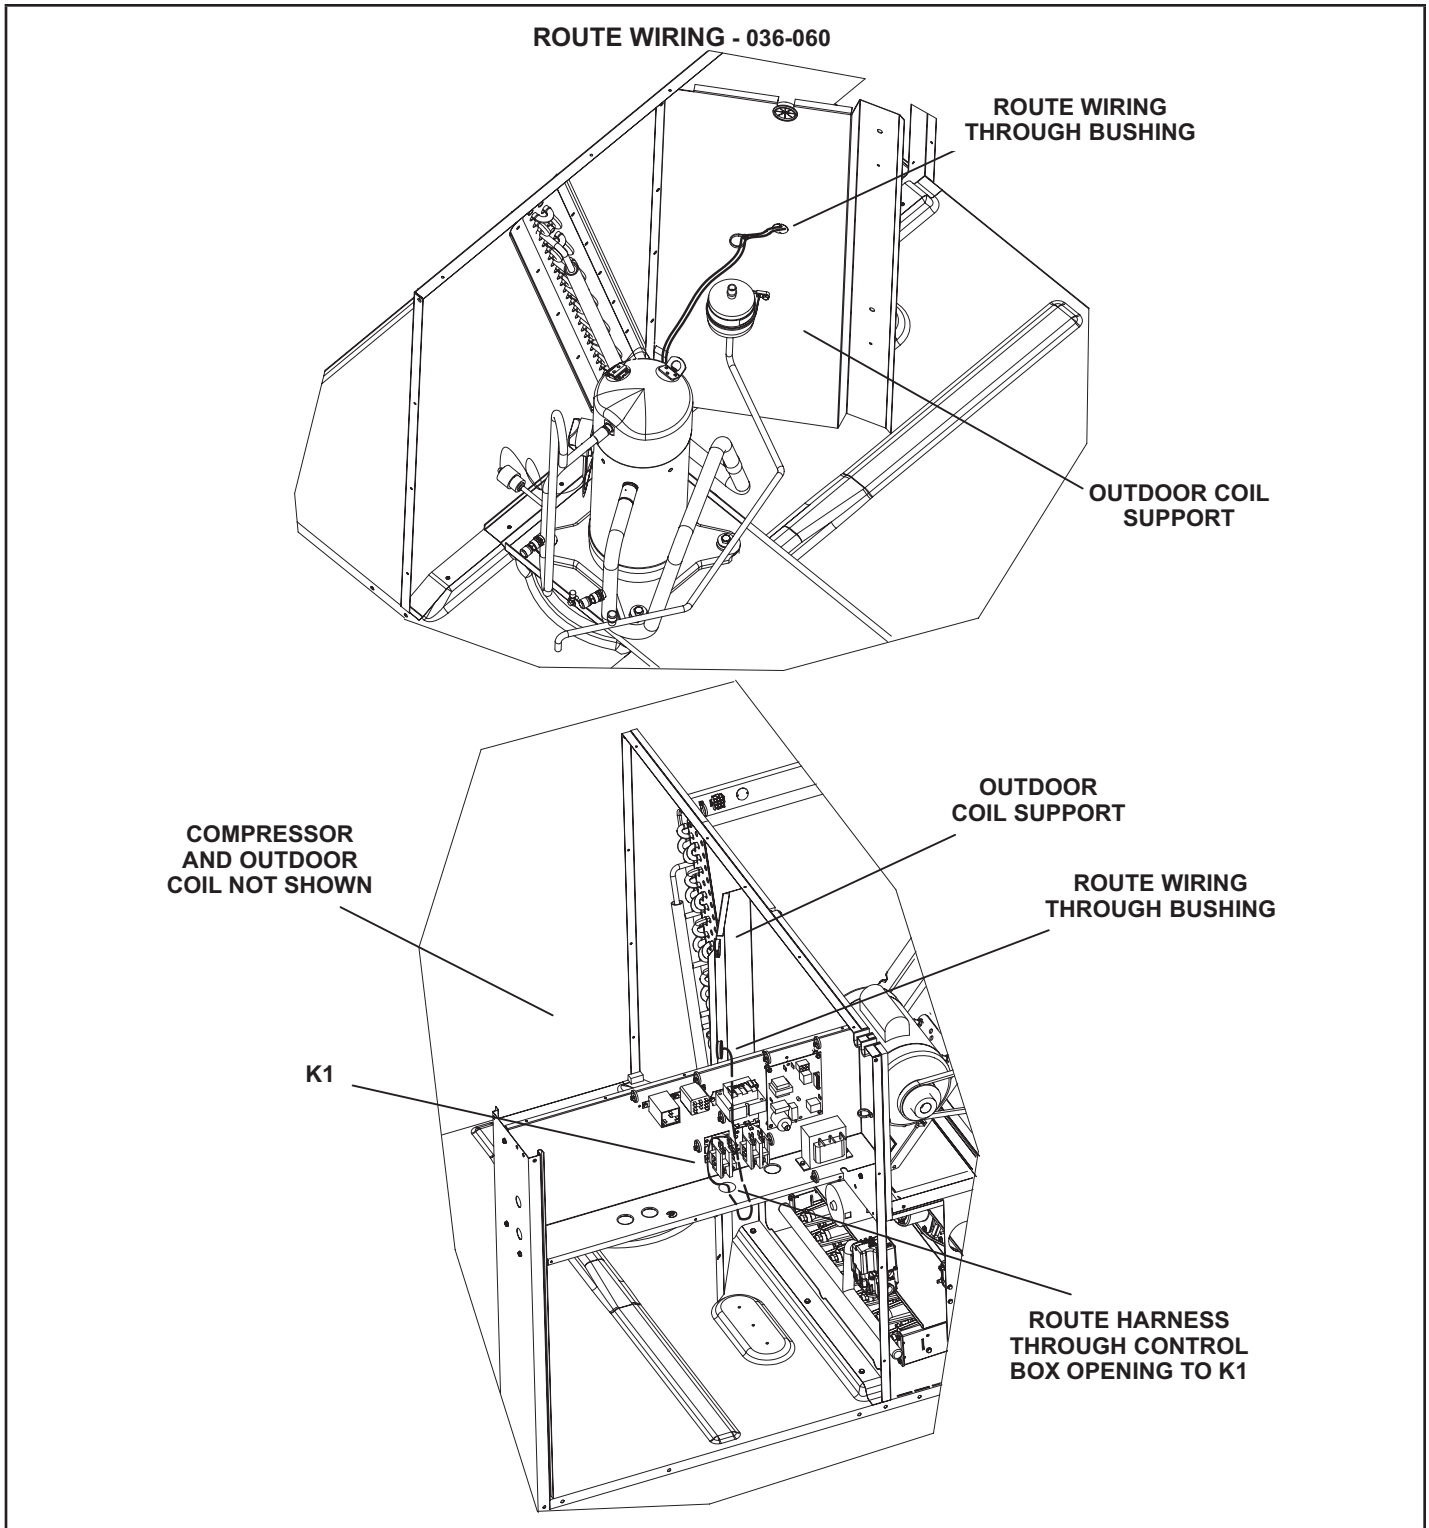

FIGURE 2
- 5 - Install snap bushing in outdoor coil support. See FIGURE 2. Route harness as shown in FIGURE 2.